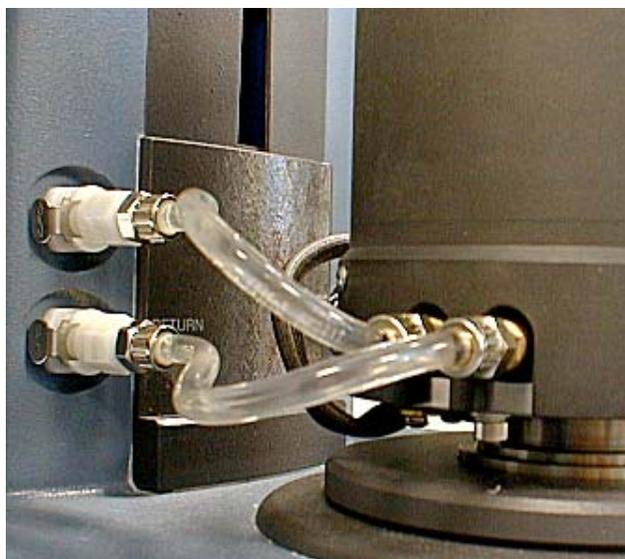

Figure 5.11
4. Connect the power and fluid cables as shown in Figure 5.11 to the right.